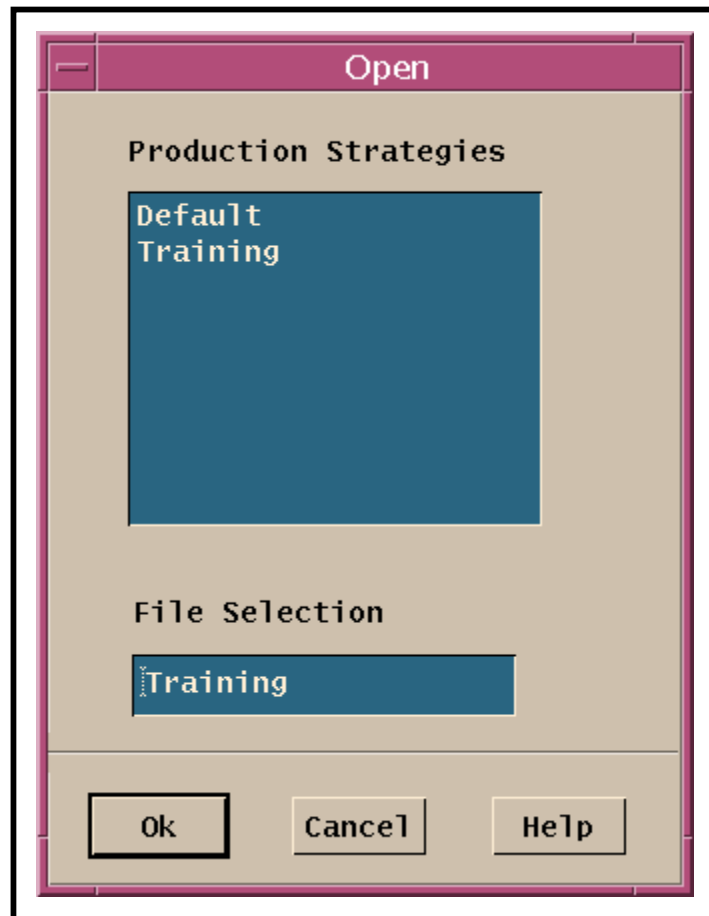

Figure 40. Production Strategies “Open” Window
- Alternatively, it is possible to select **File → Open** from the pull-down menu, select the desired production strategy from the list on the **Open** window (Figure 40), and click on the **Ok** button to open the production strategy.